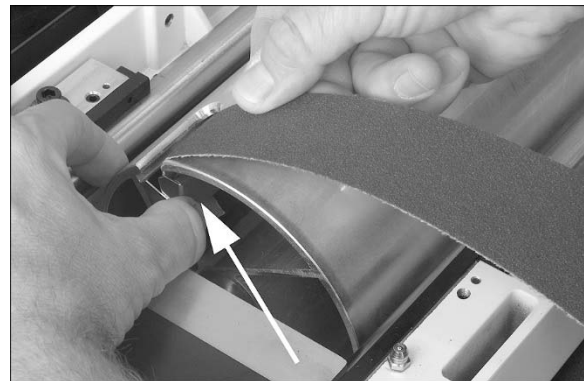

Figure 6-7
1. Press fastener lever (Figure 6-7) on outboard (left) end of drum, and insert tapered end of abrasive through slit in fastener, as shown. Insert approximately 2-inches of abrasive strip into gap and through fastener. Align tapered edge of abrasive strip with left edge of drum.